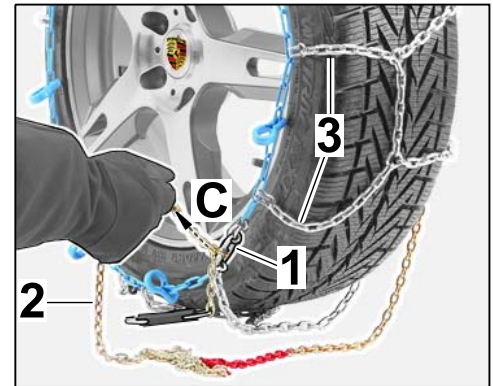

Figure 14
3.1.4 Disengage the chain link at the locking plate and pull the tensioning chain through the locking plate (⇒ *Figure 14-C-*).